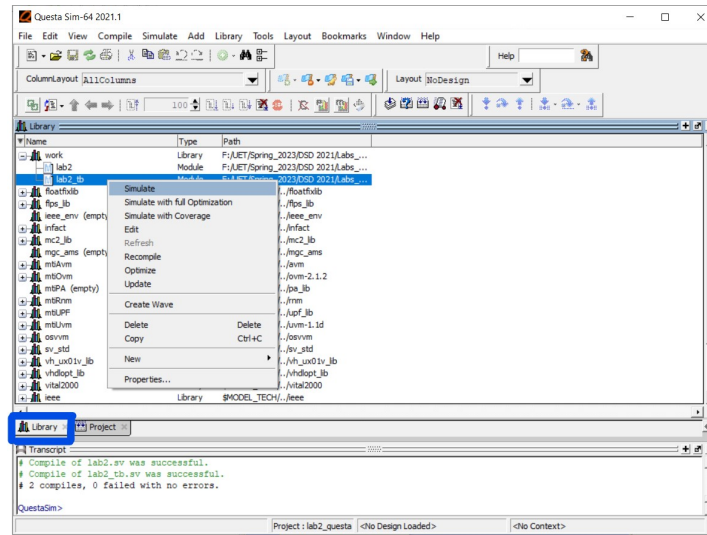

Fig. 2.10: Start Simulation.
- Then go to *Library* tab. Expand the *work* tab and click the test bench file (in our case lab2\_tb). And select *Simulate*. (Fig. 2.10).